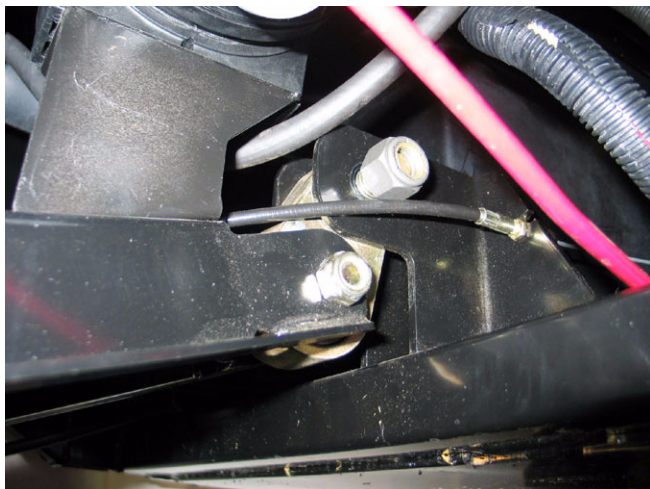

Figure 8.6
- 8.6. Remove the nut and bolt (top) that connect the link assembly to the frame using a pair of 15/16" wrenches. See Figure 8.6.